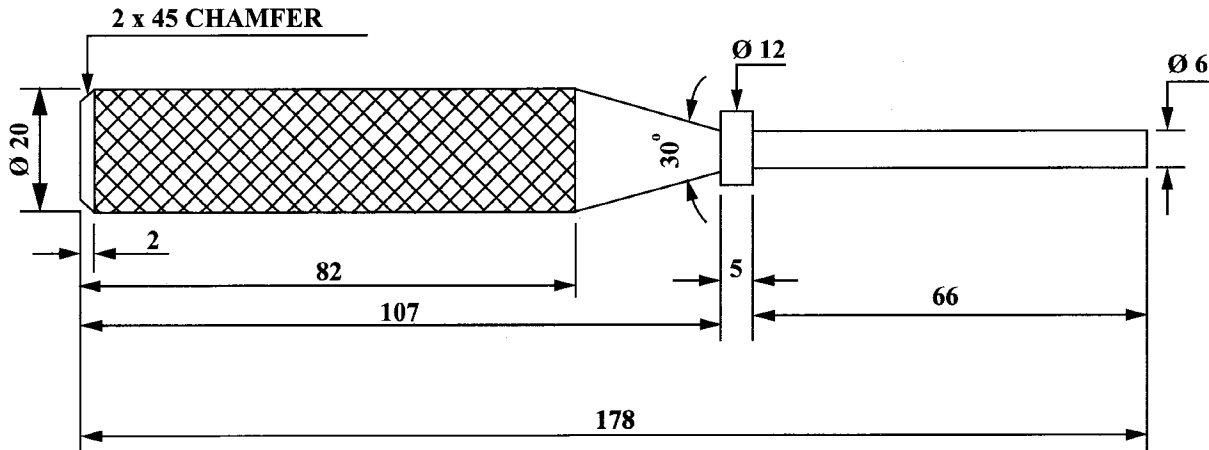

Figure 2. Solid punch
2. The solid punch shown in Figure 2 is to be machined on the centre lathe. The punch is to be machined from a piece of bright mild steel 22 mm diameter by 200 mm long.